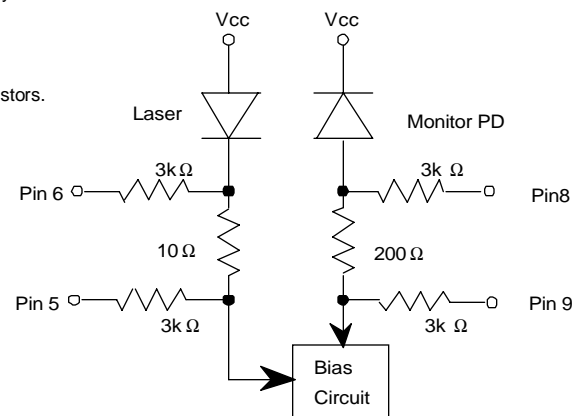

Figure 3 Monitor Circuit Schematic Diagram
7. The Laser Bias and Rear Facet Monitor currents are calculated as ratios of the corresponding voltages to their current-sensing resistors, 10Ω and 200Ω, respectively (refer to Figure 3). Upon measuring or utilizing these values, use a device whose input impedance is high enough (>1MΩ) compared with those resistors.